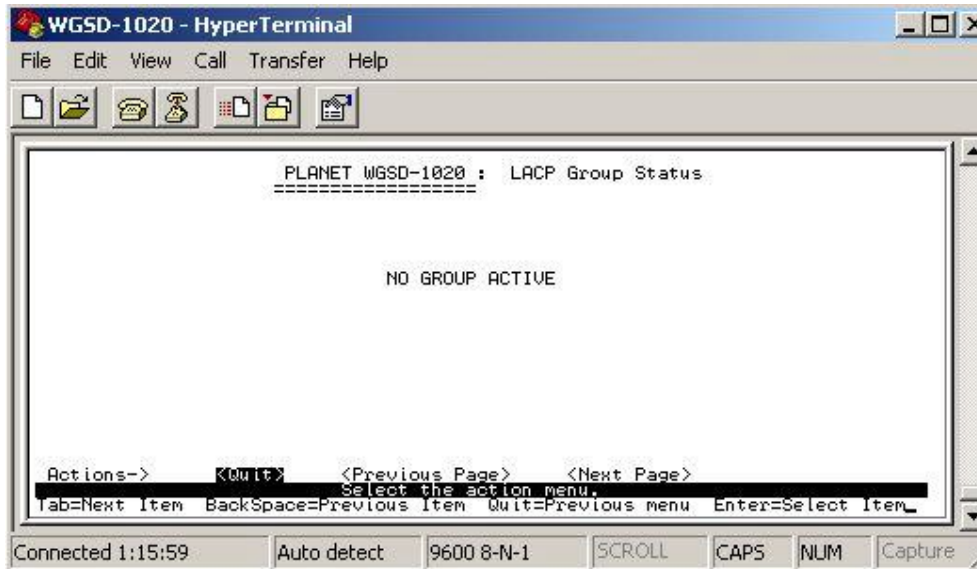

**Figure 4-67** LACP port state Active configuration screen
2. After setup completed, press "Ctrl-A" to "Action menu" and choose "save" to save the current configure. The screen in Figure 4-67 appears.